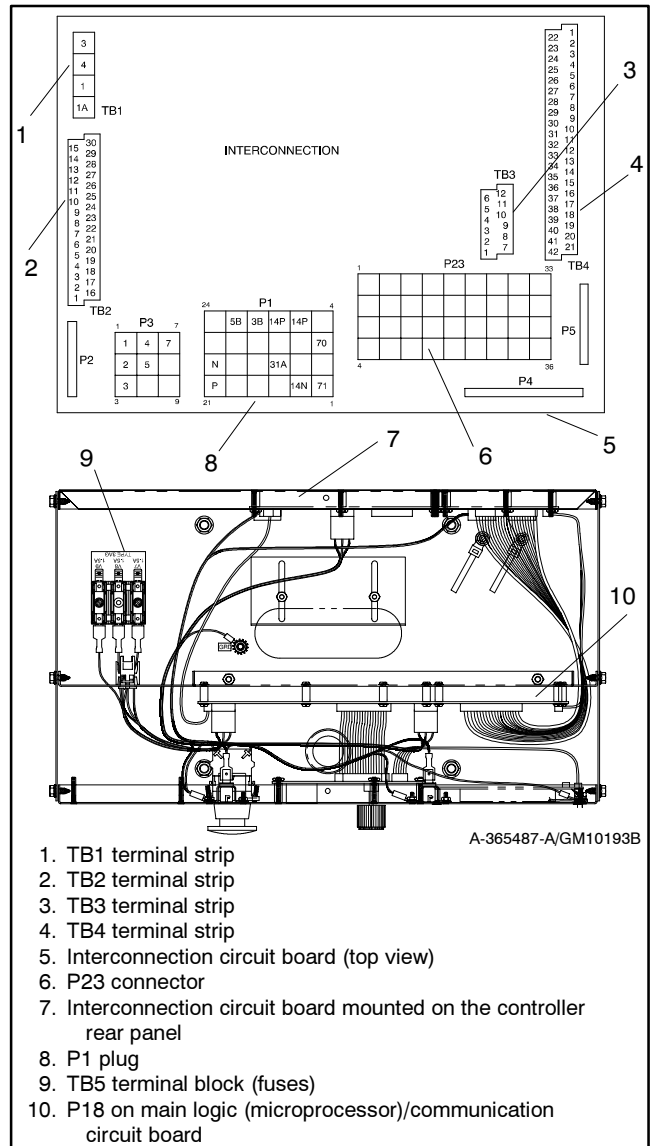

Figure 6-2 Disconnecting Controller Circuit Board External Wiring Connections
- a. Remove the controller cover. If access to the interconnection circuit board on the rear panel and/or the main logic/communication circuit board on the front panel is difficult, partially disassemble the controller box. Remove the two controller panel top screws and center bottom screw and then loosen the bottom screw on each side to swing the controller panel down. See Figure 6-2.
- b. Disconnect the 550 controller harness leads. Listed below are some common leads and plugs that require removal or disconnection. Items below in **bold** are shown in Figure 6-2. These connections are typical and may not apply to all situations. See the corresponding wiring diagram found in the wiring diagrams manual.
- a. Remove the controller cover. If access to the interconnection circuit board on the rear panel and/or the communication circuit board on the front panel is difficult, partially disassemble the controller box. Remove the two controller panel top screws and center bottom screw and then loosen the bottom screw on each side to swing the controller panel down. See Figure 6-2.